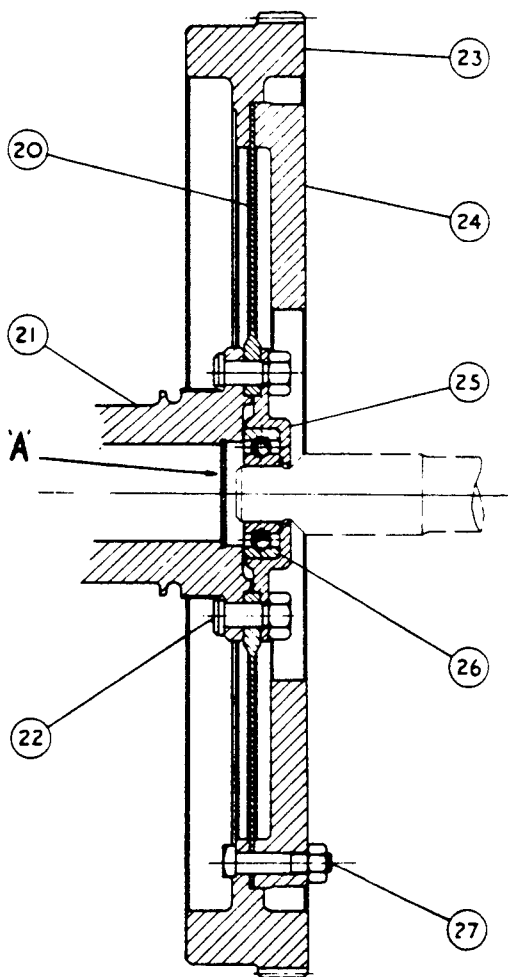

Fig.2. Section through flywheel.
1. Oil leakage past the sealing washer 'A' Fig.2 at the rear end of the crankshaft.
2. Excessive initial loading of grease into the clutch spigot ball bearing (26 Fig.2) of the flywheel, distinguished by radial grease marks on the friction plate (24).
It has been found on investigation, that under certain conditions there is a possibility of an oil leakage past the sealing washer ('A' Fig.2) at the rear end of the crankshaft. If the leakage is sufficient, oil may reach the front facing of the driven plate. In practice, it is likely that the first indication will be a clutch shudder and then a slipping clutch. If after removal of the clutch, oil, apart from grease, is found to be present in the spigot bearing (26 Fig.2), it can be assumed that it is leaking past the sealing washer.
Whenever there is evidence of oil leakage past the sealing washer, a rubber plug should be fitted as described herein. If however, a rubber plug is not immediately available, then it will be necessary to solder the sealing washer ('A' Fig.2) to the crankshaft as described in Paragraph 1b.
With the clutch removed from the flywheel, remove the crankcase lower half, taking care to try and avoid damaging the Vellumoid joint fitted between the face of the crankcase and the wheelcase. Before fitting the rubber plug, it will be necessary to drill a 1/16" dia. (1.5mm) air escape hole in the centre of the existing sealing washer. Prior to drilling, and to prevent any drilling swarf from dropping into the spigot bearing (26 Fig.2), cut a piece of paper about 1 1/2" (38mm) wide, grease it on one side and then fold it in cylindrical form so that the greased side is on the interior, pass it through the spigot bearing and up to the face of the sealing washer. After drilling the washer, remove
With the clutch removed from the flywheel, remove the crankcase lower half. Remove the nuts from the twelve bolts (22 Fig.2). Providing the nuts have not been over centre punched, it should be possible to use them again. Leaving the flywheel assembly in position on the crankshaft, remove the bearing housing (25) complete with the spigot bearing (26). Remove any surplus oil or grease from the spigot bearing and housing and do not add any additional oil or grease.
If too much grease has been packed into the clutch spigot ball bearings (26 Fig.2) in the flywheel, then it may eventually find its way on to the friction plate (24) of the flywheel with consequent contamination of the front facing of the driven plate. Remove all traces of grease, oil or foreign matter from the flywheel, friction plate and clutch casing. There should not be a repetition of this trouble, as any excess of grease in the spigot bearing will have found its way out. There is no need to remove the spigot bearing for cleaning purposes.